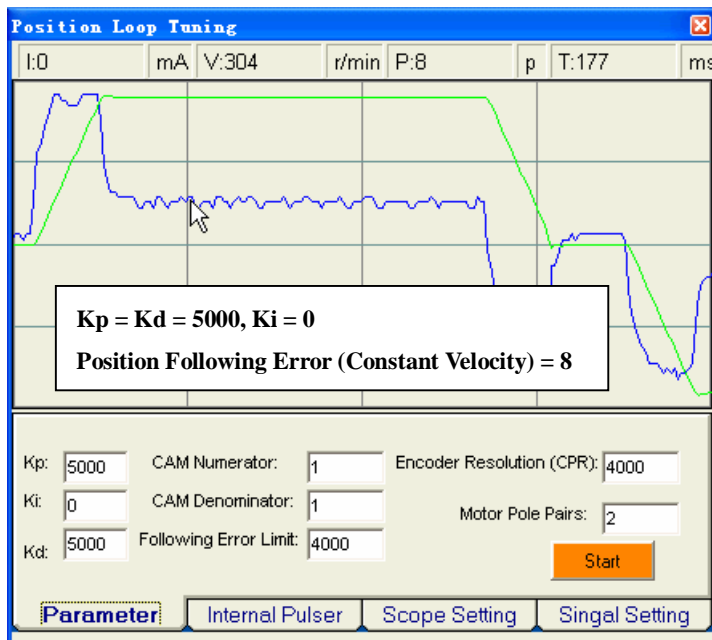
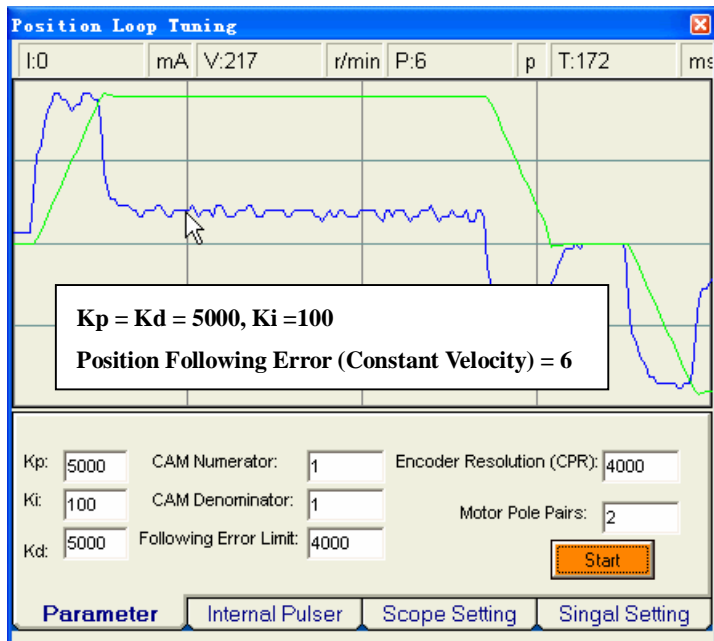

Figure 3-15: Large Position Following Error when  $K_i = 0$
Figure 3-16: Increase Ki to 100 for Smaller Position Error
**Step 3:** Now the system has been basically tuned. But there is still large position error during constant velocity. See figure 3-15. We can increase the integral gain  $K_i$  a bit to reduce the error. See figure 3-16, 17 and 19 for this procedure. Please note that too large  $K_i$  will lead to bad result.